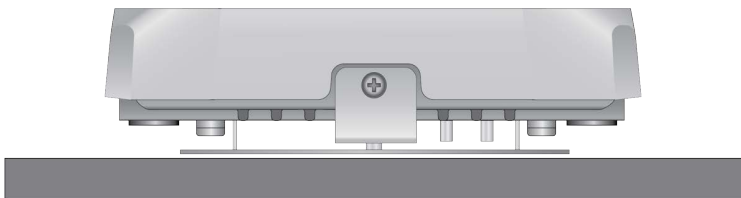

Figure 7. Approved and Unapproved Orientations on a Ceiling, Wall, or Table
- ❑ Refer to Figure 7 on page 29 for approved and unapproved orientations of the wireless access point on a table, wall, or ceiling.
1. Choose the location and orientation for the access point on the wall or ceiling. Refer to Figure 7 on page 29.